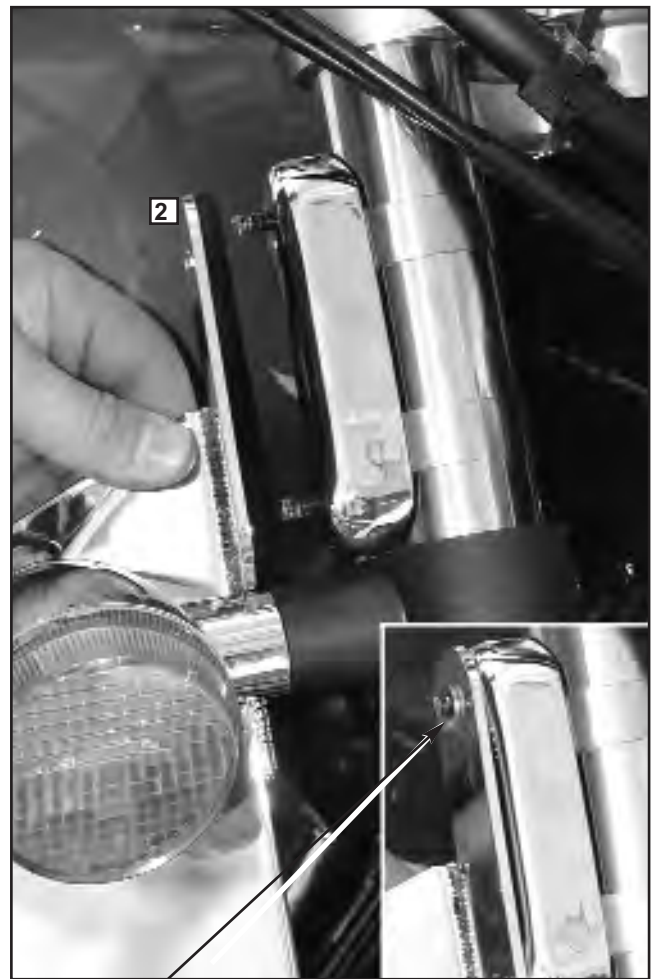

Figure2.
1. Select the appropriate Chrome Lower for the left or right side of the motorcycle. Place Chrome Lower on stud of Spider. Place Brass Washer on upper stud. **Figure 2.**